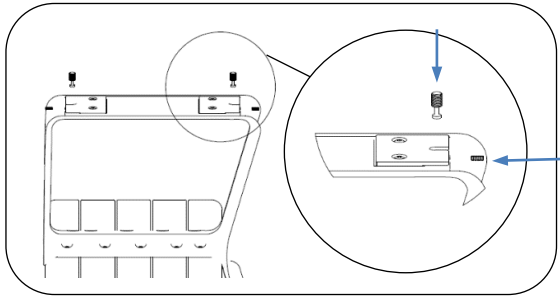

Fig. 1 – install surf mt bolts on bench for marking holes
1. Turn unit upside down on protective padding. Install surface mount bolts as shown in Figs. 1 or 4.